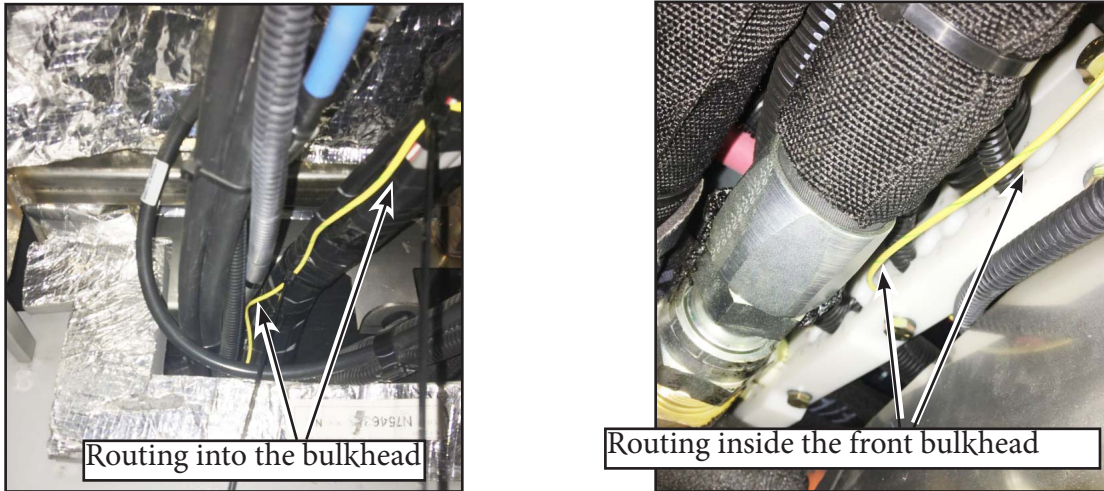

Figure 23 - Front-to-Back Cable Routing in the Front Bulkhead Area
- 2.10. Continue routing and tie wrapping the front to back cable through the front bulkhead towards the EGS (see Figure 23).